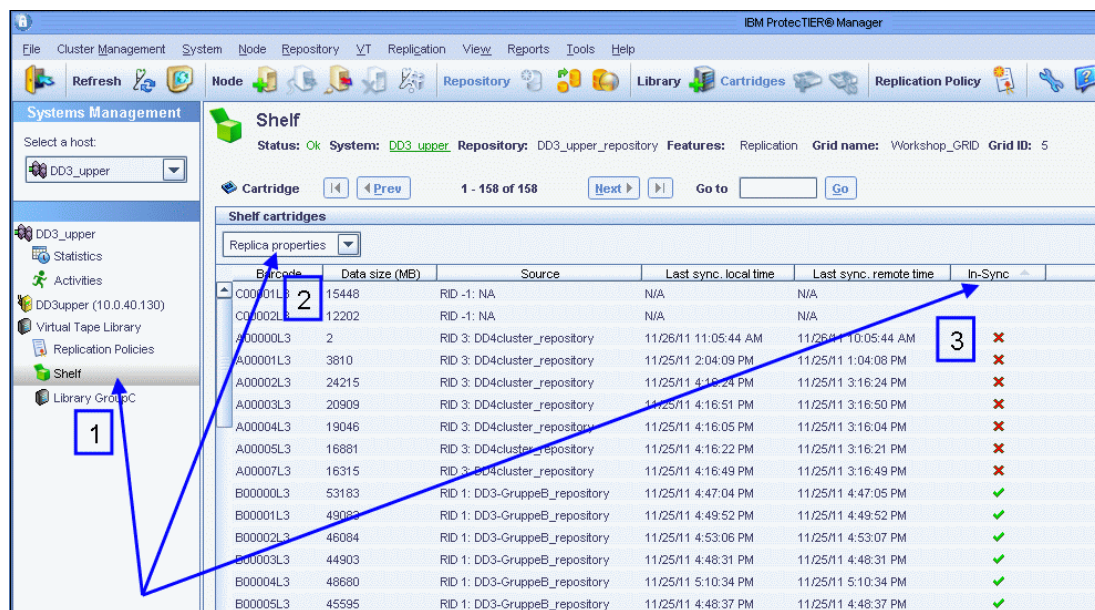

Figure 22-1 Gauging the replication status with the ProtecTIER Manager GUI
To use the GUI, follow the steps in Figure 22-1: Click Shelf (1), select **Replica properties** from Shelf cartridges (2), and sort the display list by the In-Sync status (3).